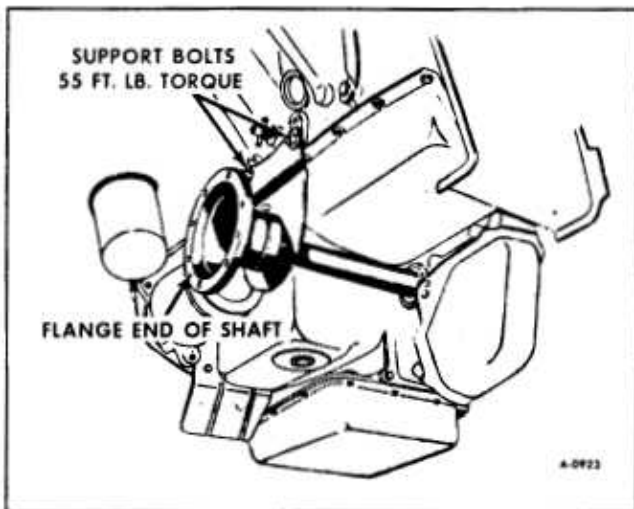

Figure 3-Aligning R.H. Output Shaft
3. Remove inner C.V. joint attaching bolts. (figure 3)
IMPORTANT: When attaching the right hand output shaft to the engine bracket, do not let the shaft hang. Referring to Figure 3, assemble bracket bolts loosely, and by moving the flange end of the shaft up and down, and back and forth, find the center location. Hold the shaft in this position and then torque the bolts to 55 ft. lbs. on support.